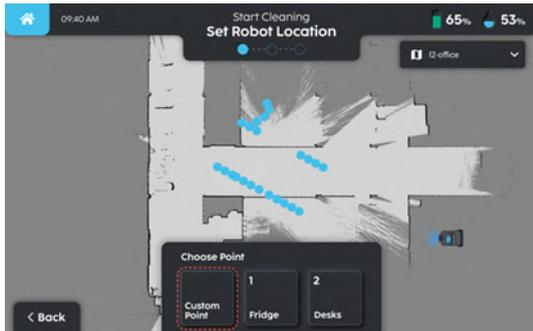

FIGURE 8-6
3. Once the machine has changed to the selected map. Proceed to localise the machine by selecting a **Custom Point** on the map or a predefined localisation point (required to manually move the machine to the predefined location) (**Fig.8-6**).